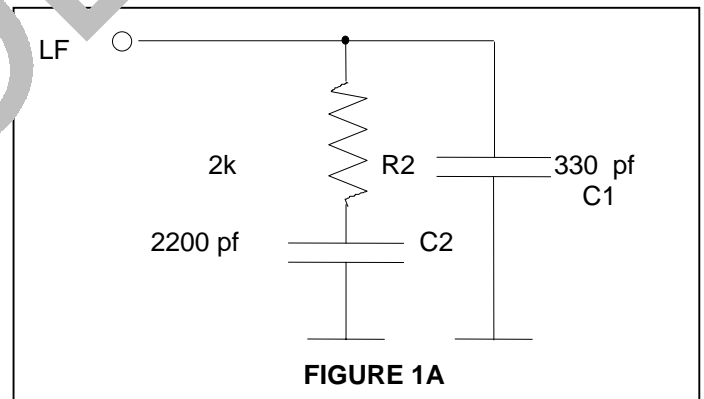
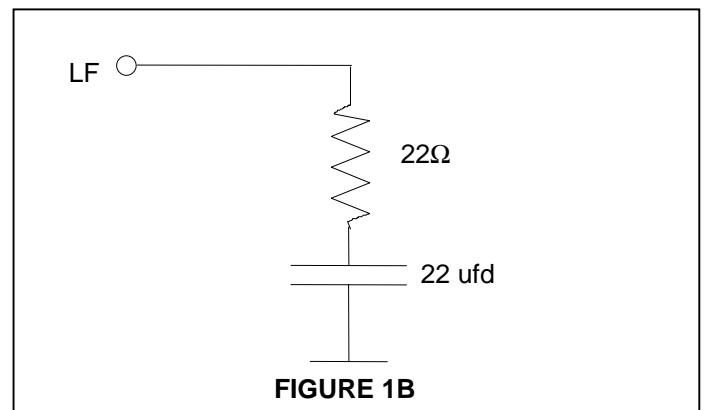

FIGURE 1A
FIGURE 1B
**LF1** - This is the control output for the clock generator. It is a single-ended, tri-state output. Component connections are shown in Figure 1A when SSON is low and in Figure 1B when SSON is high.